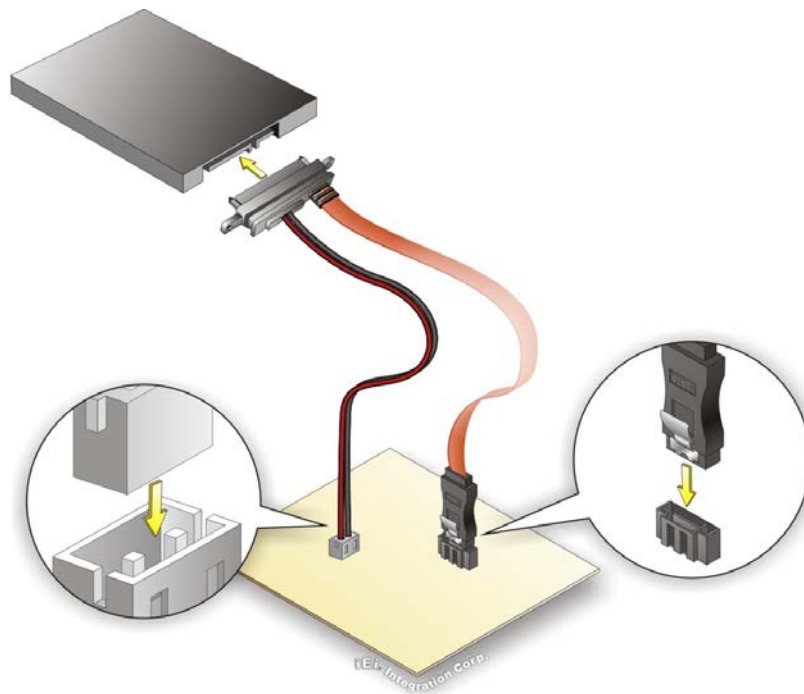

Figure 4-23: SATA Drive Cable Connection
- Step 2: Insert the cable connector.** Insert the cable connector into the on-board SATA drive connector and the SATA power connector. See **Figure 4-23**.
- Step 3:** **Connect the cable to the SATA disk.** Connect the connector on the other end of the cable to the connector at the back of the SATA drive. See **Figure 4-23**.